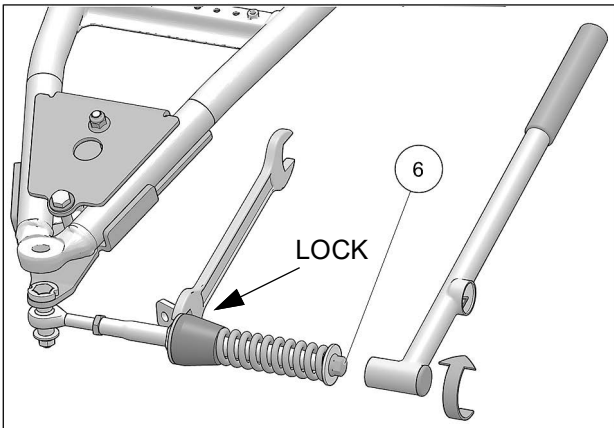

Fig. 32
15. Verify that spring assembly bolt (6) is tightened to the recommended torque specification: 75 Nm [55 lb•ft]. Make sure to lock in position, the large nut in front of the rubber cone damper. See Fig. 32